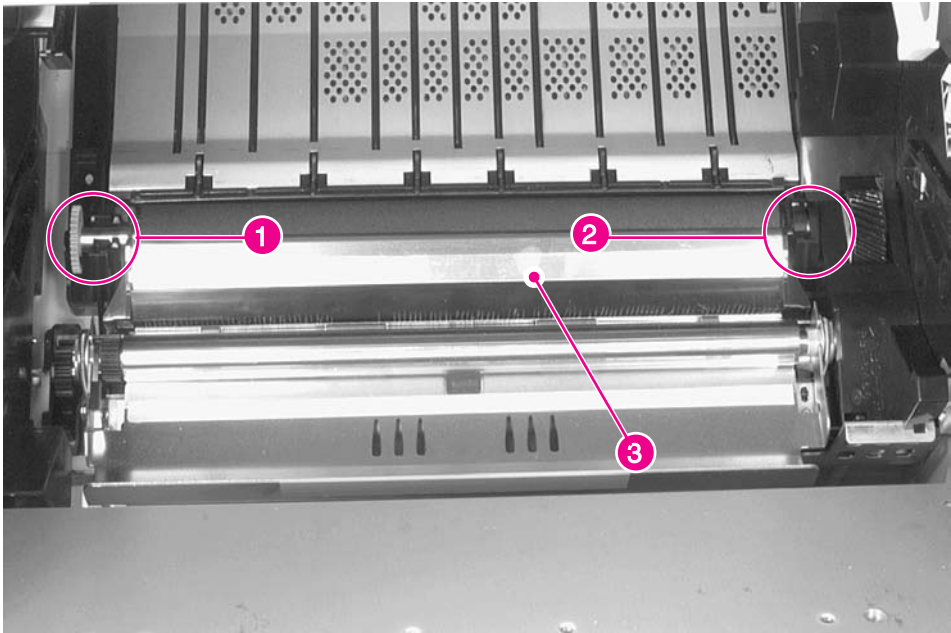

Figure 6-62 Transfer Roller Assembly
- 2 Remove the Transfer Roller Assembly (see figure 6-62 on page 282).
- Transfer Roller (see figure 6-62 on page 282)
- 2 Grasp the gear (figure 6-62, callout 1) on the left end, and carefully lift upward just enough to clear the retainer clip.
- 3 Slide the Transfer Roller Assembly to the left to release the shaft on the right end (figure 6-62, callout 2).
- 2** Hold the Transfer Roller wiper up (figure 6-62, callout 3) and slide the assembly to the right until the gear on the left end is in position.
- 4** Press the Transfer Roller wiper down (figure 6-62, callout 3) until the retaining clips snap into place.